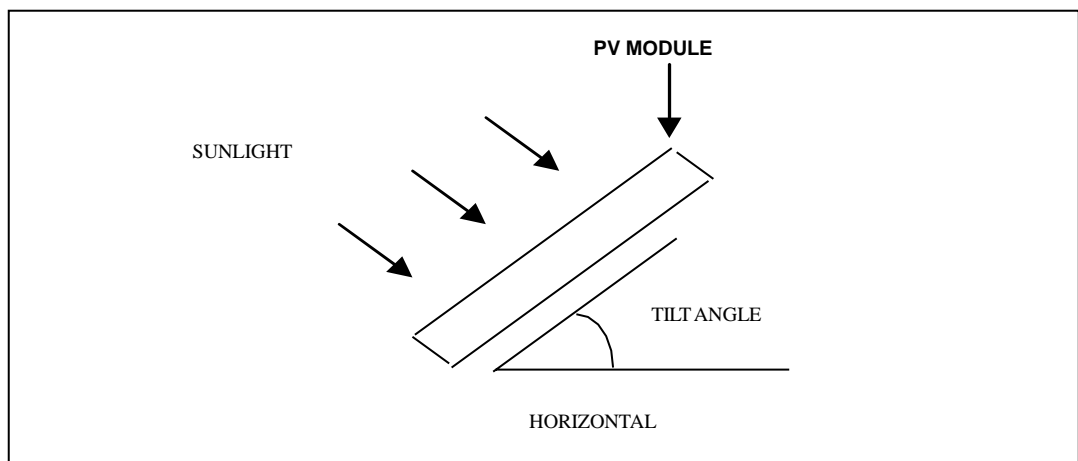

Fig. 7-1 Tilt angle
① For the area 0-50m away from the coastline, Risen Energy will implement the offshore module standards. For specific plans, please communicate with Risen technical team for confirmation.
② For areas 50-1000m away from the coastline, please use coastal modules. During the installation process, if the unboxed component connectors needs to be left empty at the installation site for a long time, please install a dust-proof plug; When removing the dust plug, the connection of the connectors should be completed as soon as possible; For support parts that are in direct contact with the module frame, it is recommended to use stainless steel or aluminum materials, and take anti-rust measures at the contact parts; It is not recommended to use steel frames for the frame, and secure the component connectors in a location where they are protected from rain.
③ For offshore areas beyond 1000m from the coastline, conventional modules can be used, but please communicate with Risen technical team for advice. During installation, secure the component connectors in a location where they are protected from rain.
④ If Risen modules are used in offshore environment projects without evaluation, Risen will not assume any responsibility if the modules fail due to environmental factors.
- Installation inclination refers to the Angle between the solar photovoltaic module and the ground plane, as shown in Figure 7-1.